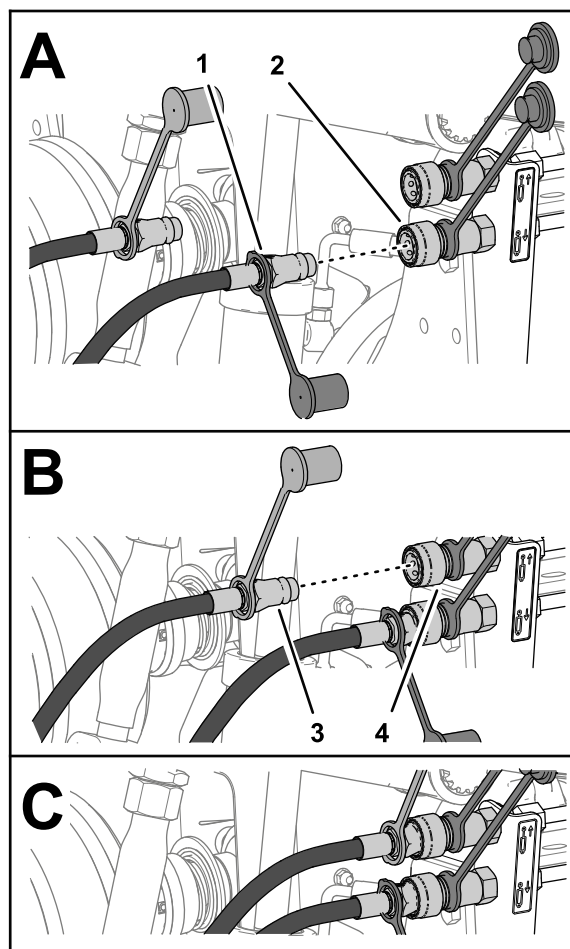

Figure 33
4. Connect the quick-connect fitting cylinder extend hose to the quick-disconnect coupling rear-attachment-lower circuit (Figure 33).